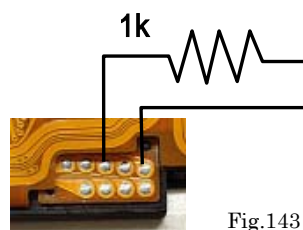

Fig.143
- 1) Solder 1k resistance to the place instructed in Fig.143.